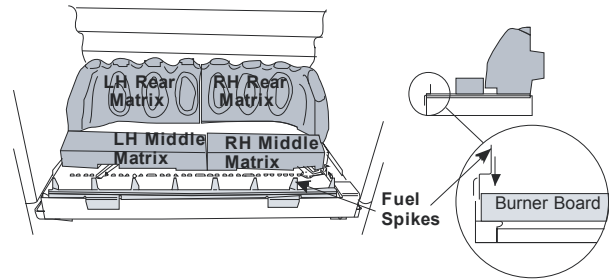

Figure 23
2. Place the **middle matrix** pieces onto the burner board so that they key into the triangular depression on the board (see **Figure 23**).
3. Insert the front fuel spike between the board and the front of the metal tray (see **Figure 23**).